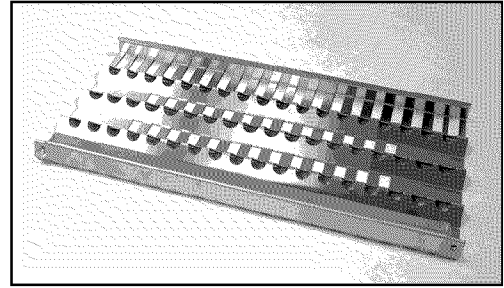

FIG. 34
Check all gas supply fittings for leaks before each use. Keep a spray bottle of soapy water near the gas supply shut-off valve. Spray all the fittings. Bubbles indicate leaks. (Fig. 34 & 35)
1. Unpack ceramic rods and remove radiant (Fig. 34) from the unit.